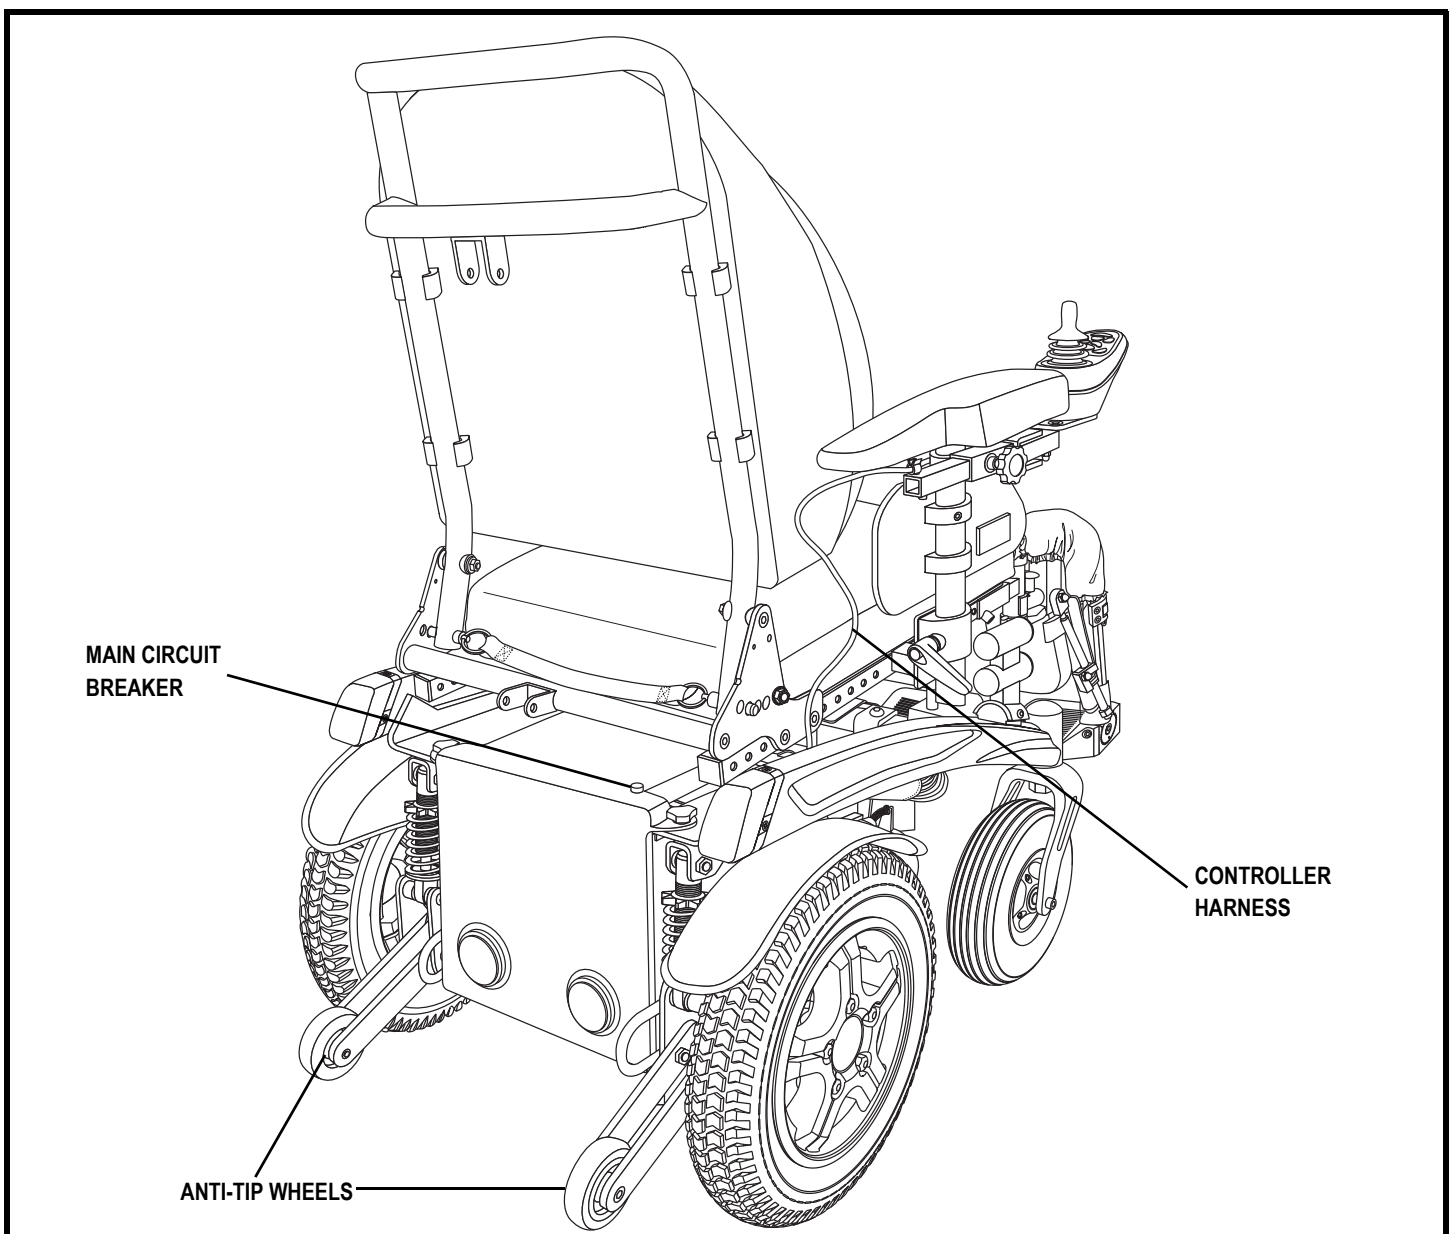

Figure 6. The Fusion Power Base
The electrical components are located at the rear of the power base. See figure 6.
**Main Circuit Breaker:** The main circuit breaker is a safety feature built into your power chair. When the batteries and the motors are heavily strained (e.g., from excessive loads), the main circuit breaker trips to prevent damage to the motors and the electronics. If the circuit trips, allow your power chair to “rest” for approximately one minute. Next, push in the circuit breaker button, turn on the controller, and continue normal operation. If the main circuit breaker continues to trip repeatedly, contact your Quantum Rehab Provider. The main circuit breaker is located on the rear of your power chair. See figure 6.